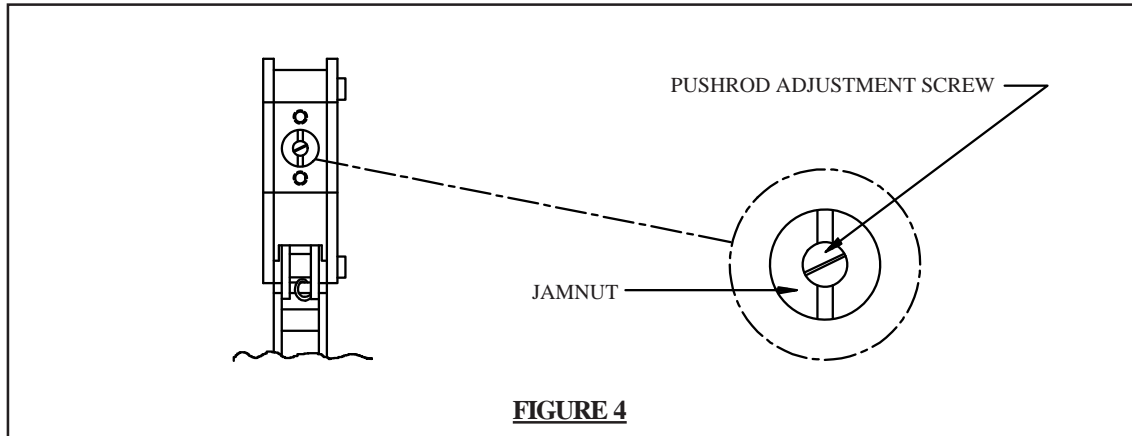

FIGURE 4
- 1.2.3. Unlock the jamnut using the SCT32084 tool, and adjust the pushrod adjustment screw using a 1/4" straight edge screwdriver (see Figure 4). Turn the pushrod adjustment screw clockwise to loosen the crimp (enlarge gaging dimensions). Turn the adjustment screw counterclockwise to tighten the crimp (reduce gaging dimensions). After each adjustment securely tighten the jam screw using the SCT32084 tool (while holding the adjustment screw stationary with the screwdriver) prior to the installation of the nose assembly.